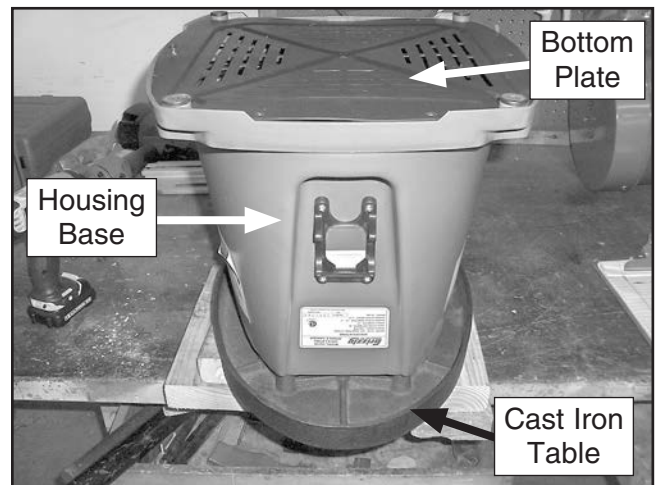

Figure 33. Housing base and bottom plate re-installed.
27. Re-install housing base (#76) onto cast iron table (#7) shown in **Figure 33**. Ensure that brown wiring (#72) is connected to the rectifier (#69).
28. Re-install bottom plate (#90) shown in **Figure 33**.